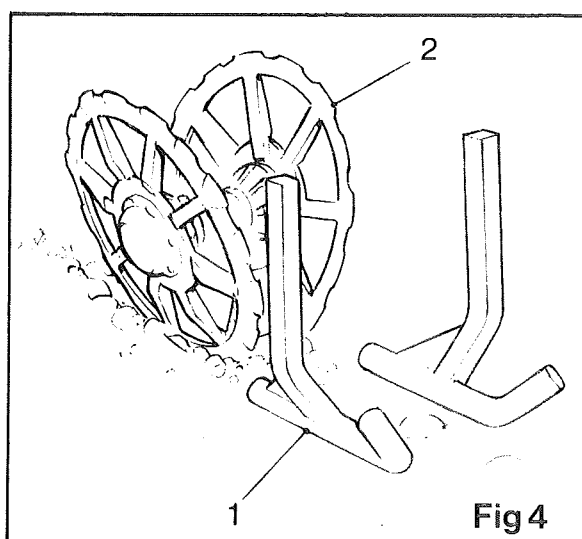
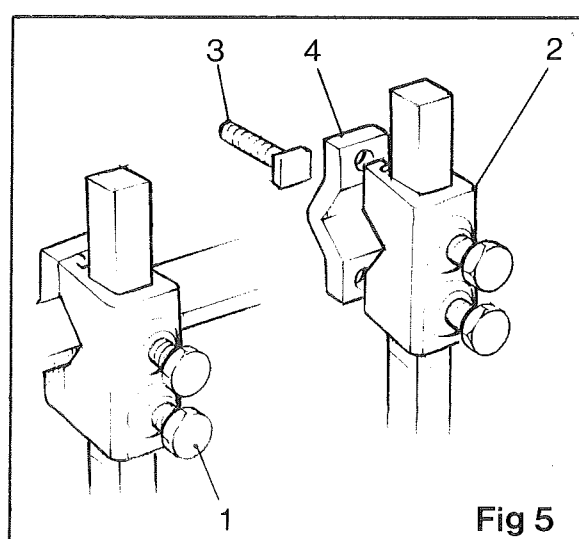

Fig 4
Fig 5
The purpose of the guide skids (item 1 fig 4) is to follow the row of beet in front of the lifting wheels (item 2 fig 4) keeping the harvester in a straight line irrespective of the contours of the ground. To set the guide skids (item 1 fig 4) drive the harvester down the row of beet for a considerable distance until the required depth of the lifting wheels (item 2 fig 4) to lift the beet efficiently has been obtained by the setting of the tractor depth control.
Stop the harvester and switch the engine off the tractor. Do not alter the tractor depth control setting. Adjust the guide skids (item 1 fig 4), to sit on the ground without taking the weight of the harvester. The heels of the guide skids (item 1 fig 4) should be in line with the inside front edge of the lifting wheels (item 2 fig 4) and directed downwards with the leading curve directed upwards.
To adjust the guide skids (item 1 fig 4) to or from the ground, loosen the two adjusting studs (item 1 fig 5) in the guide skid bracket (item 2 fig 5) allowing the guide skid (item 1 fig 4) to be raised or lowered as required.
To adjust the width of the guide skids (item 1 fig 4) loosen the clamp bolts (item 3 fig 5) in the guide skid brackets (item 2 fig 5) and the cap (item 4 fig 5). Slide the complete guide skid assembly horizontally along the guide skid bar, to the required position, which is determined by the width of the rows of beet.